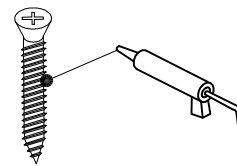

FIG.2A
4. Apply silicone to 3/4" screw (#16) threads. [SEE FIG.2A]